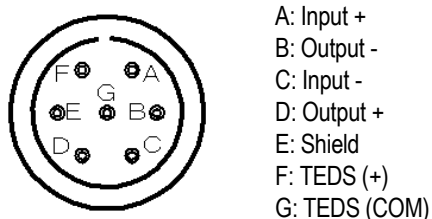

Fig.5
4.3 Measuring instrument side connector is wired as illustrated below. (Fig.5)